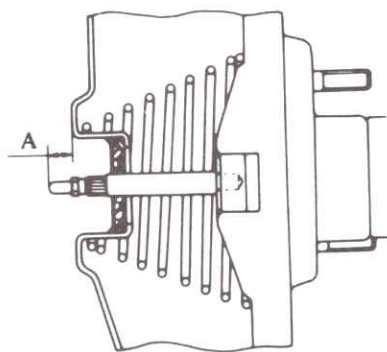

Fig. 9.6 Vacuum servo unit-to-master cylinder pushrod dimension (Sec 15)
6 Check the projection (A) of the pushrod which enters the master cylinder (see Fig. 9.6) The projection is set in production and the threads locked, so if it does not conform to specifications renew the complete unit.